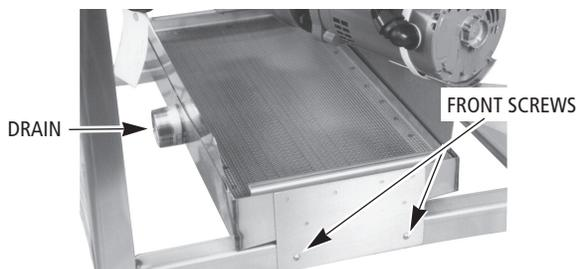

Figure 5
When the dishwasher is shipped from the factory, the drain pan is assembled so the drain (*Figure 5*) exits from the left side of the machine. If your plumbing arrangement requires the drain to exit from the right side of the machine, rotate the drain pan and strainer, as follows:
1. Remove 2 screws and nuts at the front (*Figure 5*) and 2 screws and nuts at the rear of the drain pan.